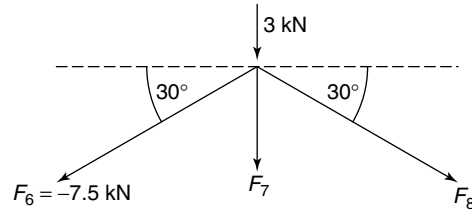

Figure 4.38
**Consider joint (4);** see Figure 4.38.